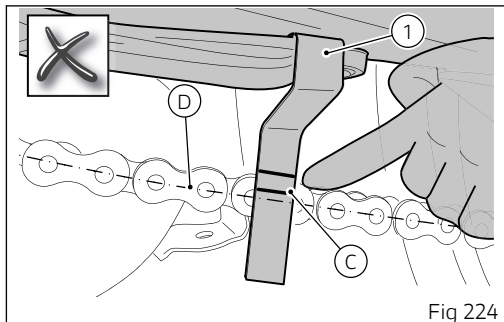

Fig 224
Check the chain tension by pushing the chain downwards with a finger, near the gauge (1). If the axis (D) of the chain pins exceeds the notch (C) of the gauge (1) at the bottom, the chain must be tensioned (see Fig 224).